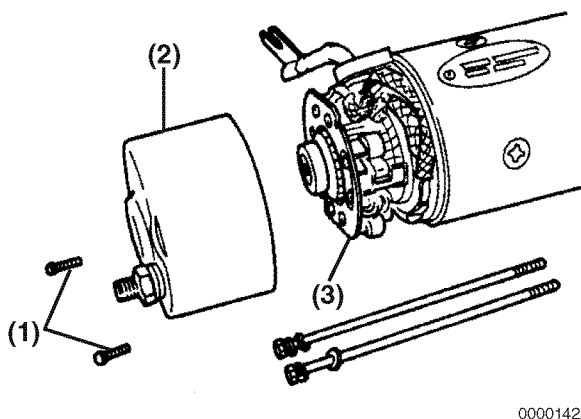

Figure 10-32
11. Carefully reinstall the brush holder (**Figure 10-32, (3)**) assembly.
12. Reinstall the rear cover (**Figure 10-32, (2)**) and secure with two bolts (**Figure 10-32, (1)**).